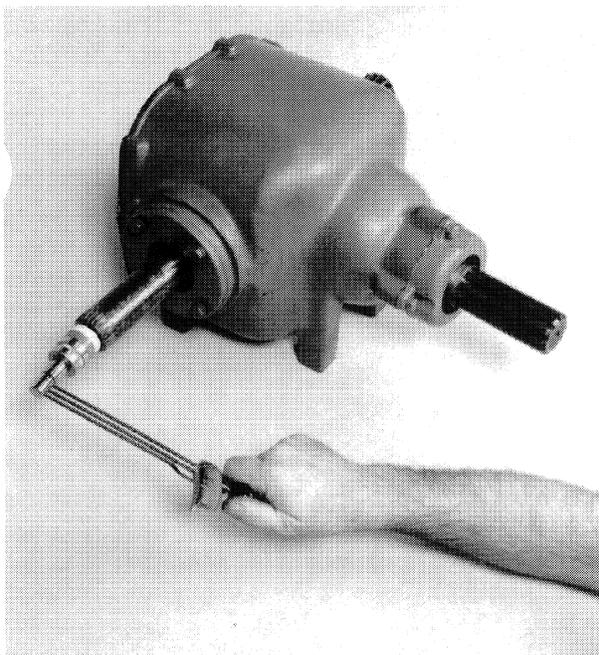

FIGURE 1-10
6. Add shims as required at I and R, Figure 1-7, to obtain a rolling torque on the input shaft of 12-18 in. lbs. (4.4-6.7 N·m). The torque can be measured as shown in Figure 1-10.